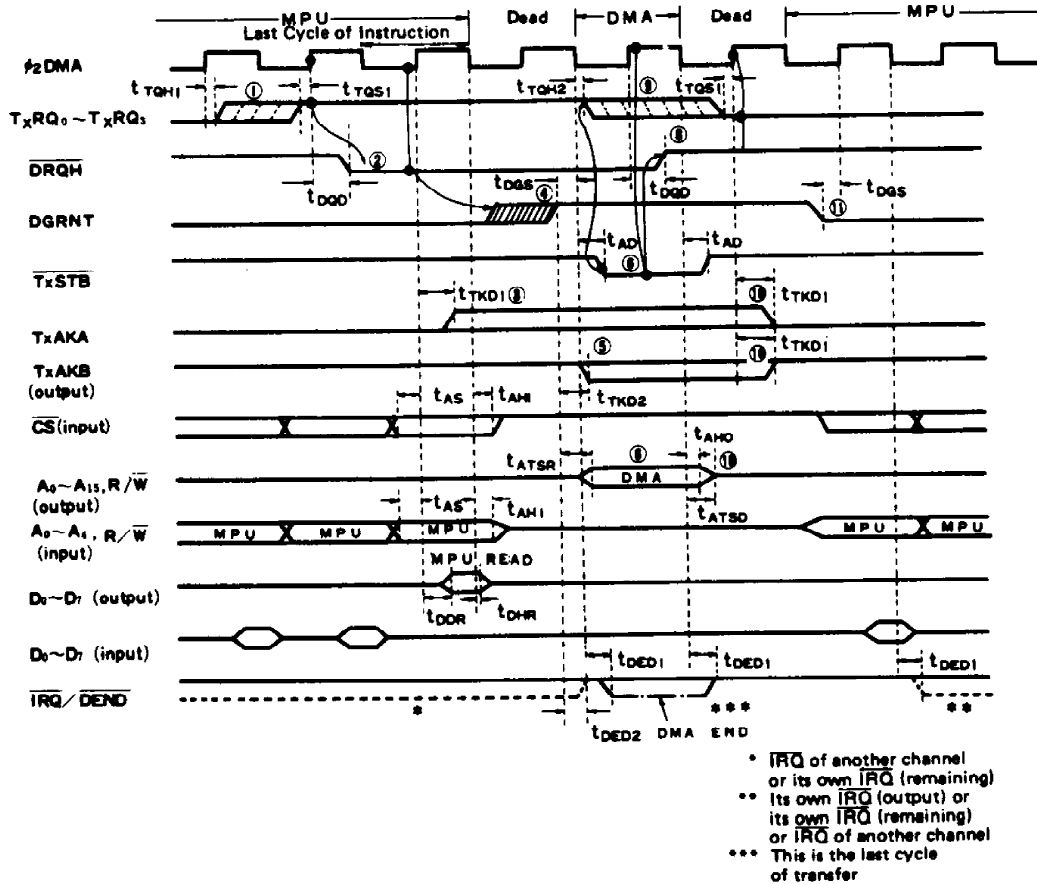
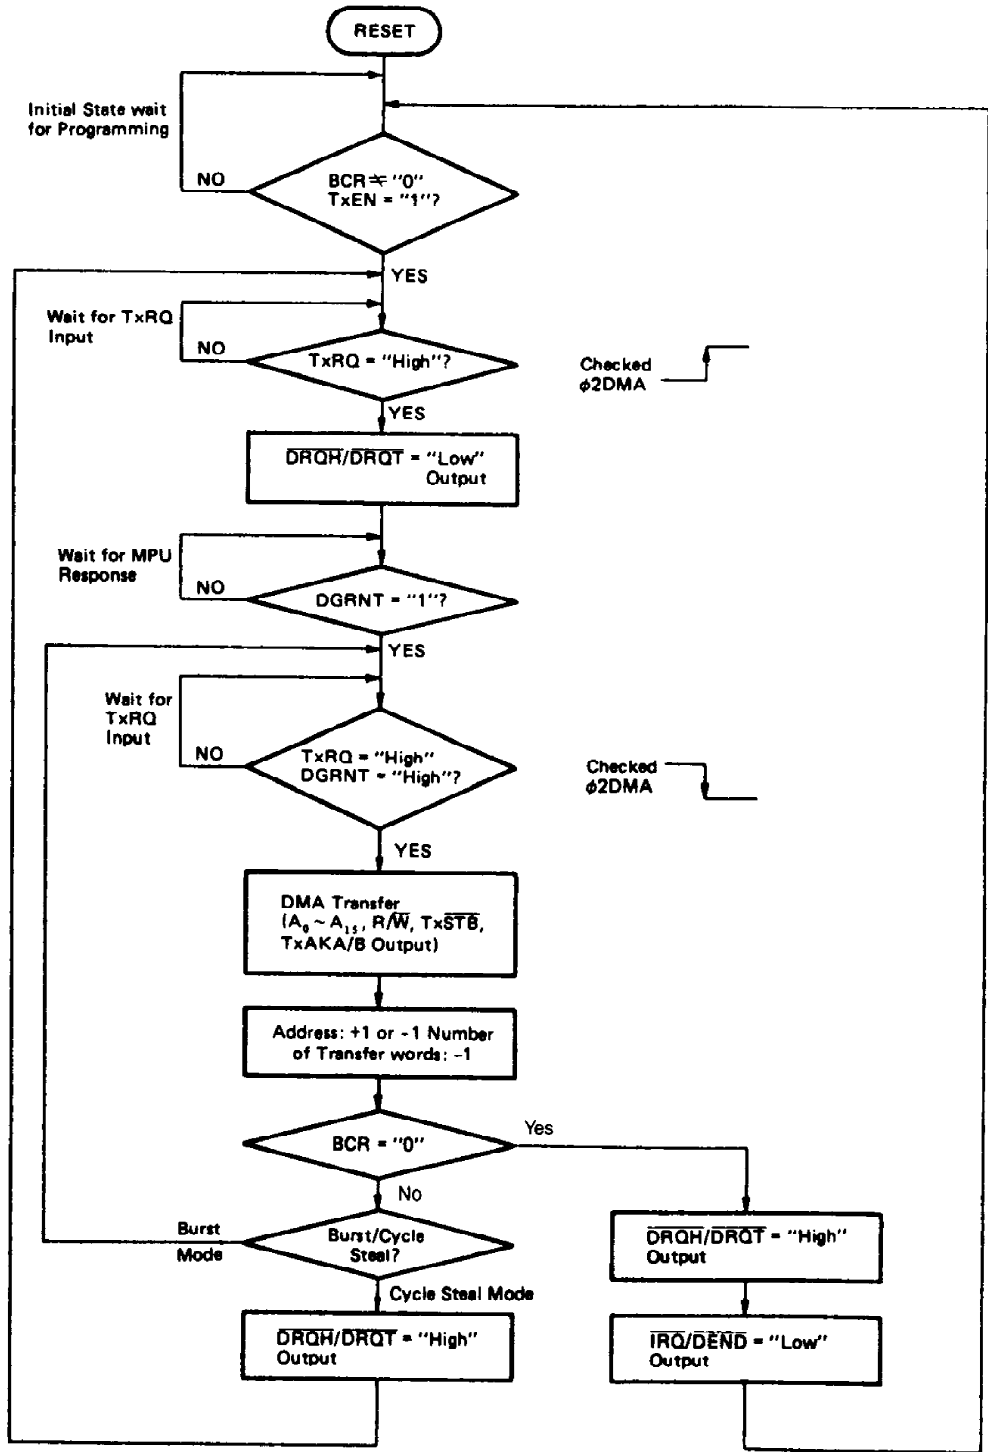
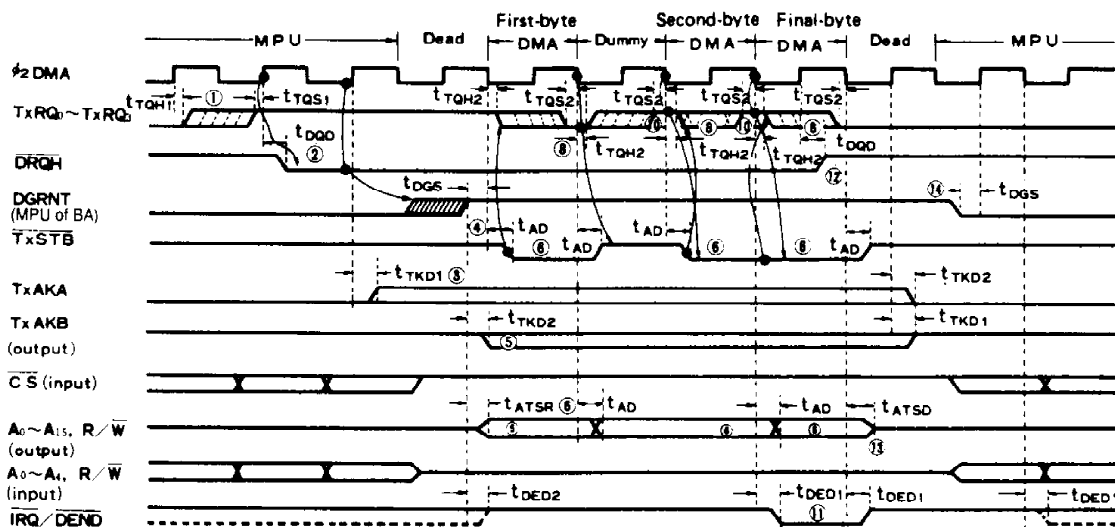
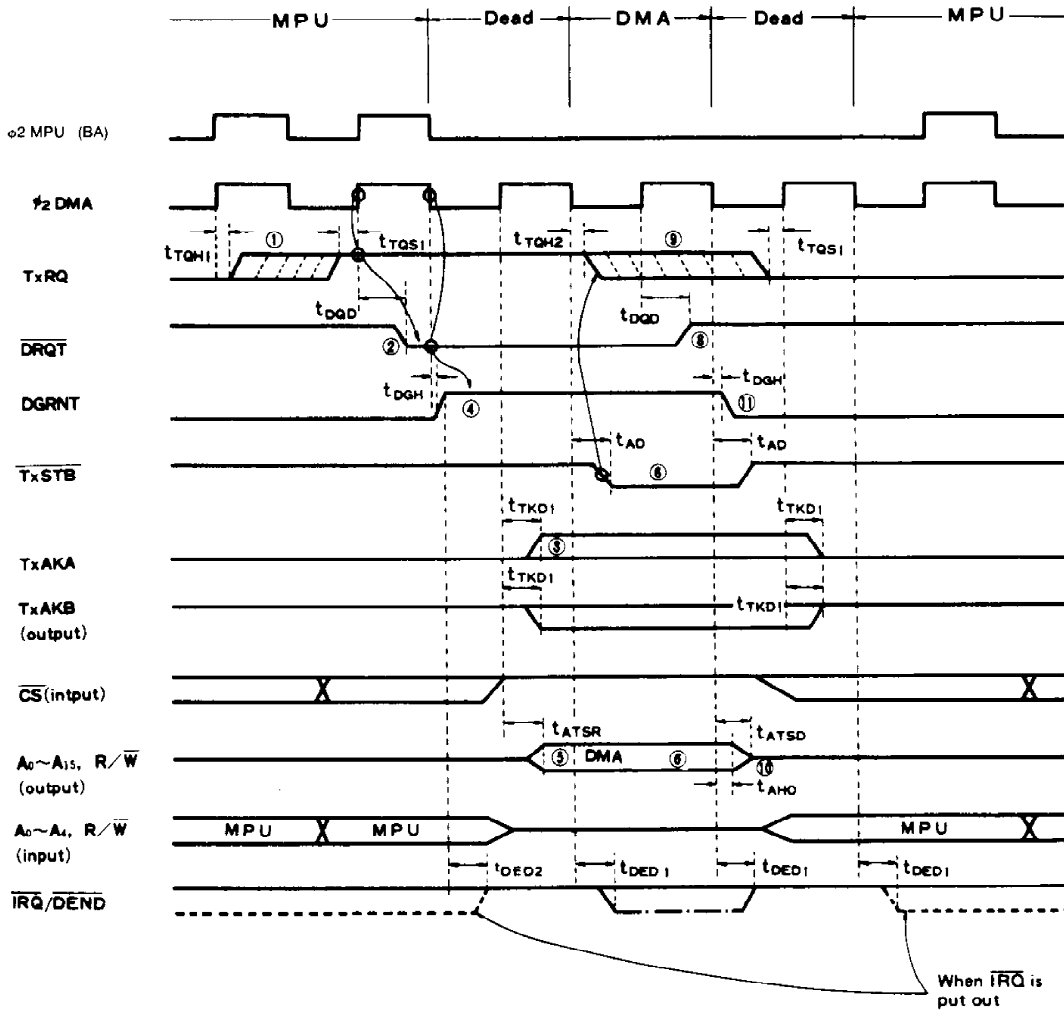

Figure 12 HALT Cycle Steal Mode
Figure 13 Flow Chart of DMAC Operation
Figure 16 HALT Burst Mode
Figure 17 TSC Cycle Steal Mode
Timing chart is shown in Fig. 12 and flow chart is shown in Fig. 13. Procedure of transfer operation is the following. (No. ① ~ ⑭ in Fig. 12 correspond to the following items.)
- ① TxRQ0~TxRQ3 input is checked at the rising edge of  $\phi_2$ DMA. When it is at "High" level, it gets into the following operation.
- ② DRQH="Low" is output and MPU is requested to stop its operation.
- ③ TxAKA is driven (Level output).
- ④ MPU stops its operation and DMAC waits until DGRNT goes to "High" level.
- ⑤ When DGRNT goes to "High" level, DMAC drives TxAKB, A0~A15 and R/W lines.
- ⑥ TxSTB is given to perform DMA transfer.
- ⑦ Address is incremented or decremented by one and number of transfer words is decremented by one.
- ⑧ When DRQH rises to "High" level, MPU gets into Instruction Cycle again.
- ⑨ TxRQ falls to "Low" level.
- ⑩ A0~A15 and R/W get into high impedance state again.
[Note] TxRQ0~TxRQ3 input in HALT cycle steal is, in principle as shown in Fig. 12, set to "High" every 1-byte transfer on account of I/O request. When TxSTB of the DMAC is driven, it is reset to "Low". Take care not to be against this principle, or the following states may happen.
Its timing chart and flow chart are shown in Fig. 16 and Fig. 13 respectively. Procedure of transfer is the following (No. ① ~ ⑭ in Fig. 16 correspond to the following items).
- ① TxRQ input is checked at the rising edge of  $\phi_2$  DMA. When it is at "High" level, it gets into the following operation.
- ②  $\overline{DRQH}$ ="Low" level is given and MPU is requested to stop its operation.
- ③ TxAKA is driven.
- ④ MPU stops and DMAC waits for DGRNT rising "High" level.
- ⑤ When DGRNT rises "High" level, DMAC drives TxAKB,  $A_0 \sim A_{15}$ , and R/W lines.
- ⑥ TxSTB is sent out to perform DMA transfer.
- ⑧ TxRQ falls to "Low" level.
- ⑨ When number of transfer words is 0, from ⑪ to ⑭ operations are performed.
- ⑩ When BCR is not "0", TxRQ is checked at the falling edge of  $\phi_2$  DMA. When TxRQ is at "High" level, DMA transfer is performed through ⑥ ~ ⑧ again. When TxRQ is not at "High" level, DMAC waits for becoming "High" level.
In burst mode, TxRQ should be also, in principle, set to "High" when I/O request is asserted, and reset to "Low" when  $\overline{TxSTB}$  goes to "Low". If TxRQ is asserted as level input without being reset, DMA transfer is performed at all cycles of  $\phi_2$  DMA since TxRQ is always at "High" level at the falling edge of  $\phi_2$  DMA. Its example is shown in the second-byte and the third-byte transfer in Fig. 16.
Its timing chart and flow chart are shown in Fig. 17 and Fig. 13 respectively.